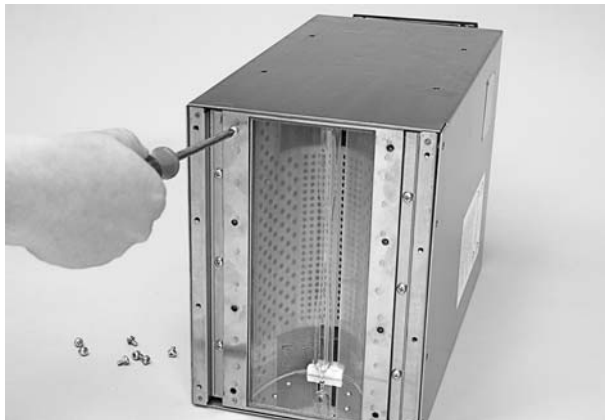

Figure 5-3 RF Screen Removal
2. See Figure 5-3. Turn or place the lamphead assembly so that the entire bulb area is exposed and accessible.